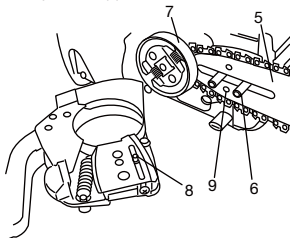

Fig. 3
3. Install the chain bar (5) onto the bolts (6), then push it toward the sprocket (7) as far as it will go. Make sure that the boss of chain tension adjust bolt (8) fits into the hole of the bar (9). (Fig. 3)
- Slightly move the bar back and forth and make sure the chain tension boss (8) fits into the hole (9) in the bar properly. (Fig. 3)